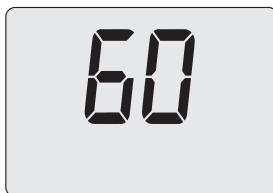

Fig. 8.24
- Press the keys 16, until the value of parameter P03 on the LCD display (Fig. 8.24).